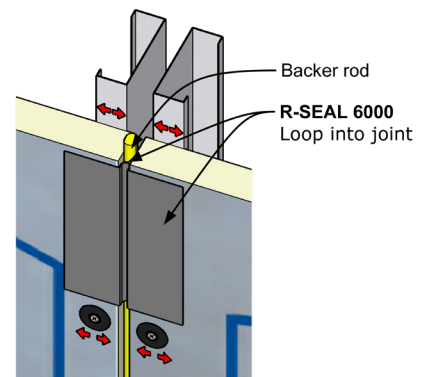

Figure 12
D. For dynamic joints up to 3/4", R-SEAL 6000 flashing may be used to seal the insulation boards. Install a backer rod and/or bond breaker as required and loop flashing inside the joint to allow for movement. **Reference Figure 12.** The R-SEAL 6000 must extend a minimum of 3" onto each surface. Loop dimensions will vary based on joint performance requirements.